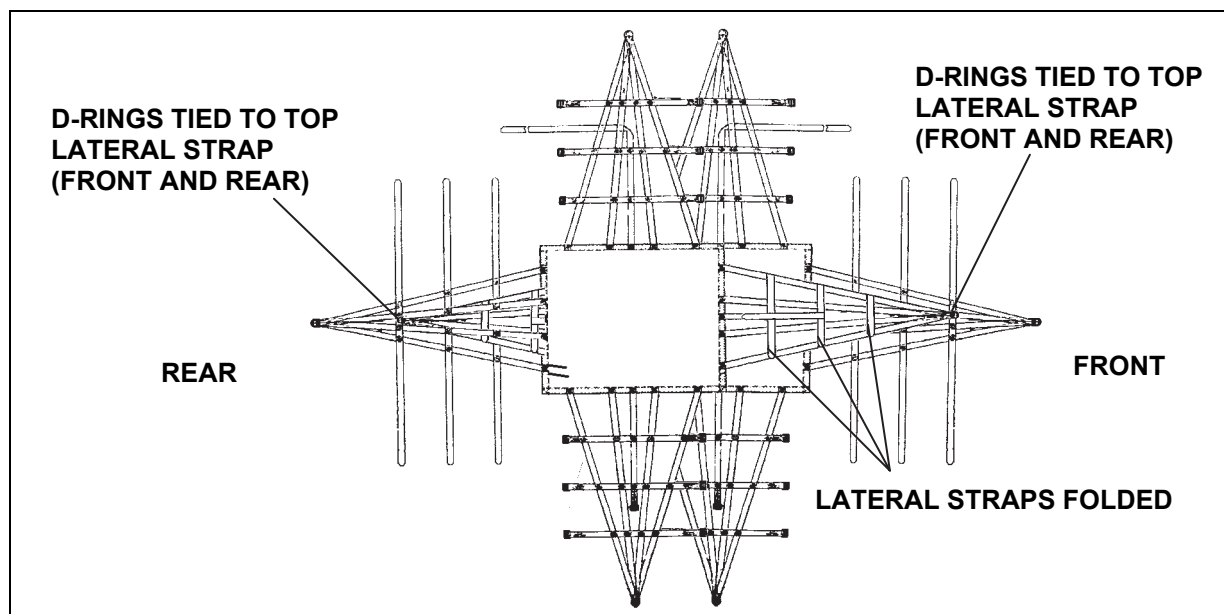

Figure 8-19. Second A-22 Sling Assembly Positioned and Tied
- Fold and place all lateral straps on top of the front support web (figure 8-19).
- Use a length of Type VIII nylon webbing or two turns of 1-inch tubular nylon webbing to tie the support web D-rings exposed at the front and rear of the load to the top lateral strap of the other A-22 sling assembly as shown in figure 8-19.